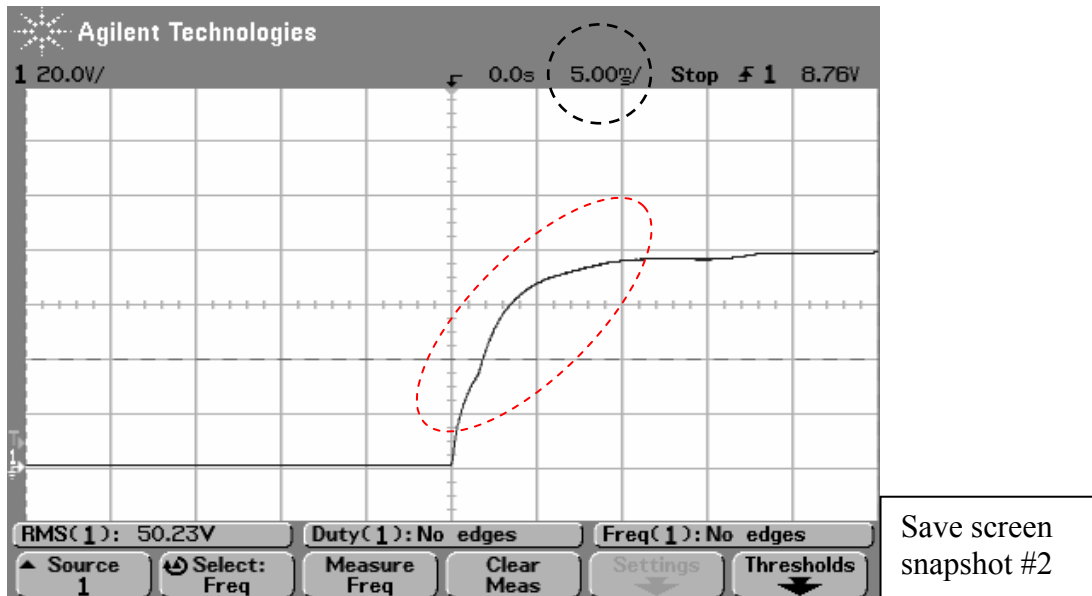

Figure 9. The Fast Time Constant of V_{out} during the Open Loop Bump Test
- press “single” to freeze the screen on the next trigger. Then, switch on the DBR output switch and capture the open loop response of V_{out} . **Save a screen snapshot for your report.** Upon careful examination of the saved screen snapshot, using both 50 and 5 msec/division scales on the scope, two time constants can be observed in the response. The slow one, in Figure 8, is due to the dynamics of the transformer and DBR. The fast one, in Figure 9, is due to the dynamics of the converter. The two-time constant process is often observed when switching large capacitors in power systems and is explained by the concept of “charge balancing” as follows: for the first few msec, the DBR capacitor and equivalent converter capacitor (reflected through the converter duty cycle switching), together with converter resistance, form a series circuit. The DBR capacitor voltage falls slightly, and the converter capacitor voltage rises significantly. Charge is conserved. The two capacitors then act in parallel with a common voltage. The dynamics of the transformer plus DBR take effect, replenishing the DBR and converter capacitors gradually.